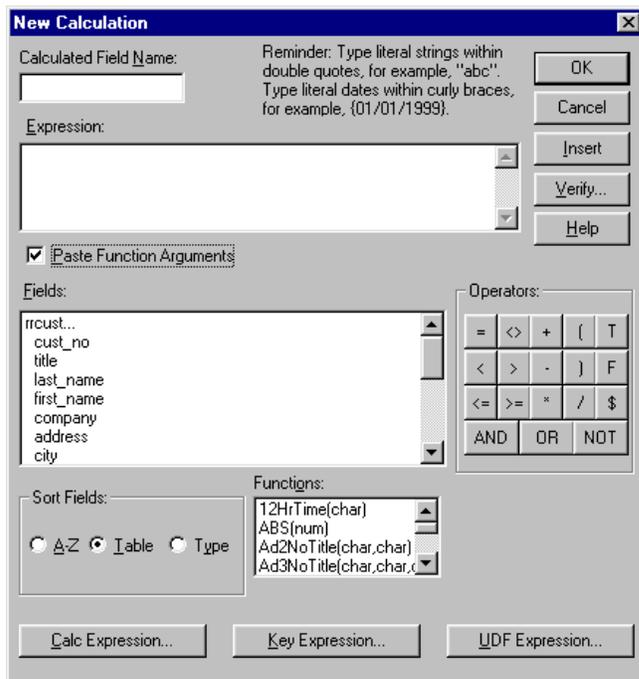

Figure 7.1 New Calculation Dialog Box
1. Select Calculations ⇒ Calculated Field or click the Calc button on the Standard Toolbar. If no calculated fields have been defined for the current report, the New Calculation dialog appears. If one or more calculated fields have already been defined, select New in the Calculated Fields dialog to display the New Calculation dialog (see Figure 7.1).